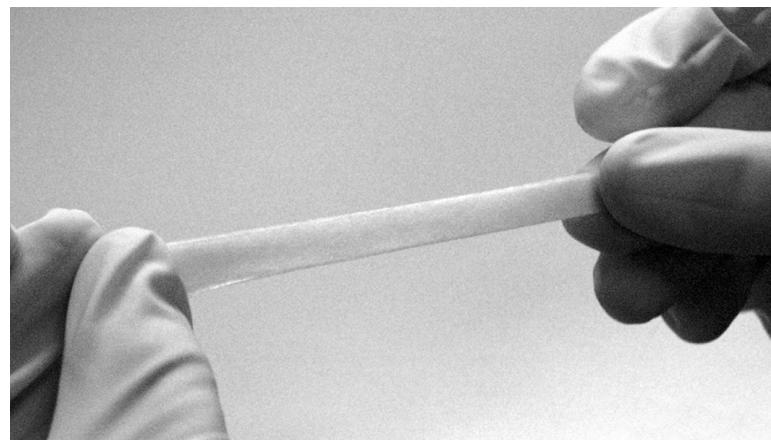

Figure 6-13. Folded Lens Tissue (Width Wise)
1. With one hand on each end of the lens tissue, fold the tissue in half (width wise), three times. Do not touch any part of the lens tissue that will make contact with the fiber optic surface. See Figure 6-13.